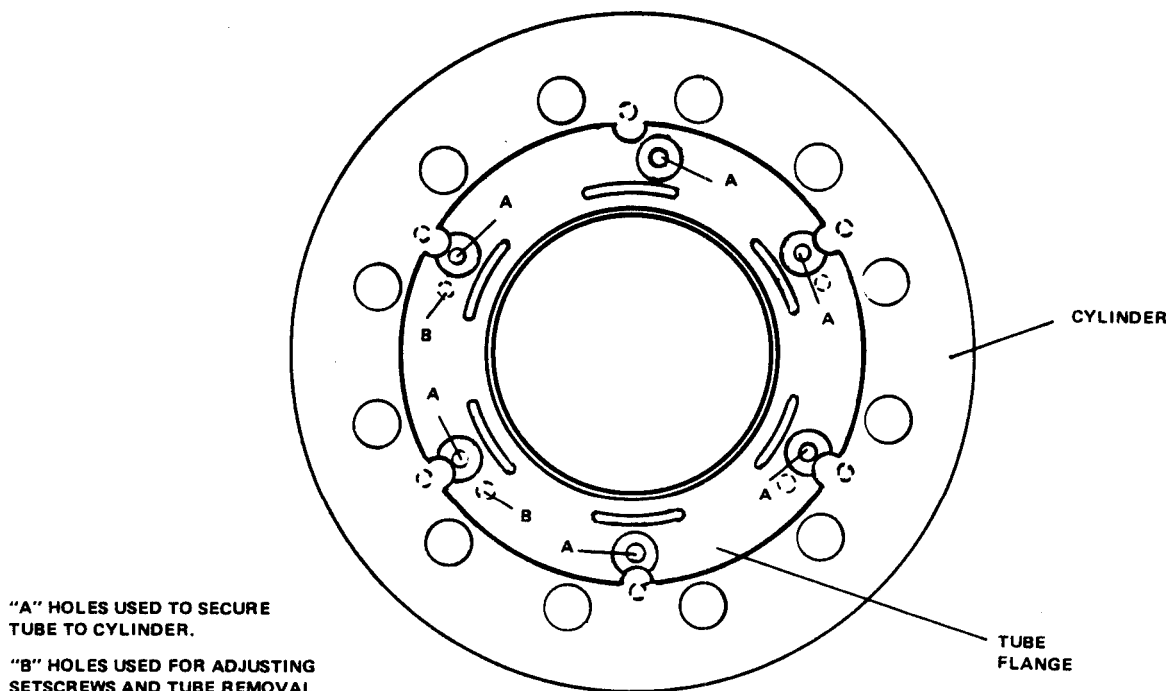

Figure 5-13. Front of Heat Exchange Tube and Cylinder
4. Remove the four adjusting setscrews from the tube flange (B on figure 5-13).
5. Remove the six hex-head bolts that secure the heat exchange tube flange to the cylinder (A on Figure 5-13).
6. Take four of the hex-head bolts removed in step 5 and thread them into the "B" holes (see Figure 5-13). Thread each bolt against the cylinder surface but do not tighten.
3. Insert four setscrews in "B" holes (see figure 5-13 and tighten set-screws until they contact cylinder surface.
4. Insert six hex-head bolts in "A" holes (see figure 5-13) and start tightening in an even pattern. When bolt heads reach flange, continually check rear tube extension and adjust set-screws to maintain dimension as you tighten down flange bolts.